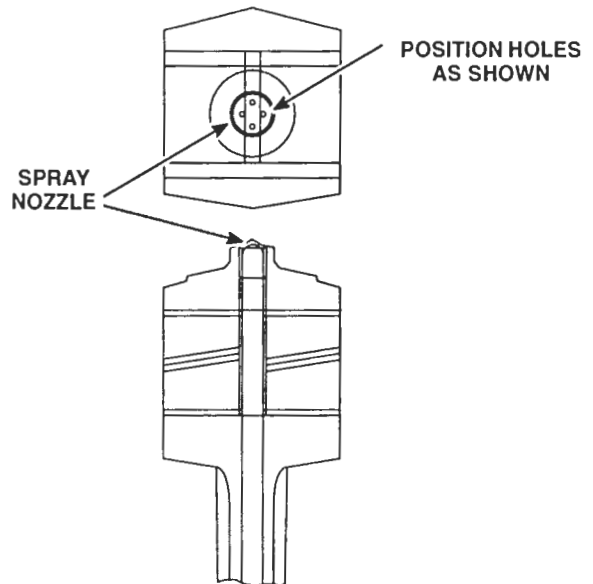

Figure 7. Spray Nozzle Hole Position
1. Start the new spray nozzle, with the holes positioned straight into the counterbore (Figure 7.) in the connecting rod.